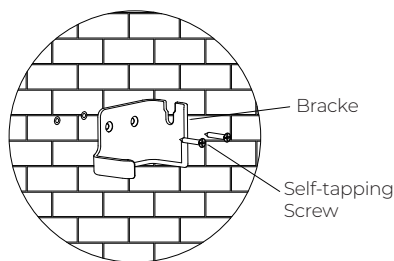

Fig. 3-14-4
- Fix the mounting bracket onto the wall and use the Phillips screwdriver to fasten 2 self-tapping screws into the wall plugs. See fig. 3-14-4.